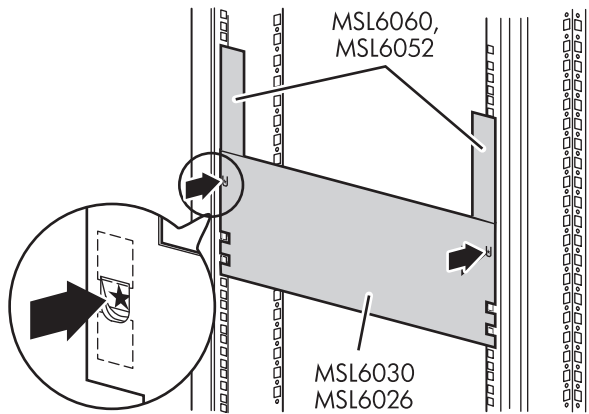

Figure 12 Library template (10000 rack enclosure shown)
1. Use the template that shipped with the library to mark the location of the mounting hardware on the mounting rails of the rack enclosure (see Figure 12). The black dots along the sides of the template indicate the top of a U.
2. Remove the template and then attach the rails using the supplied fasteners (see Figure 12). The front rail brackets are threaded to directly accept screws. The rear brackets are not threaded and require cage/clip nuts in the rack enclosure rear vertical rails.